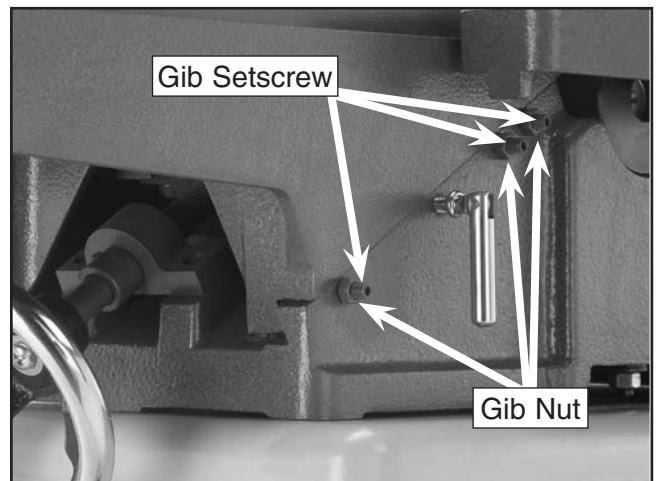

Figure 54. Outfeed table gib controls.
1. Using a 12mm wrench, loosen the two outfeed table gib nuts on the side of the jointer base (**Figure 54**).